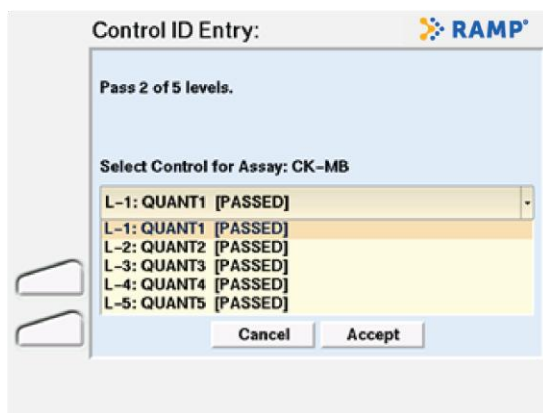

Figure 11 Control ID Entry Screen
- 3 If prompted, select the appropriate Control ID using the drop-down menu (*Figure 11*). Touch **Accept**.